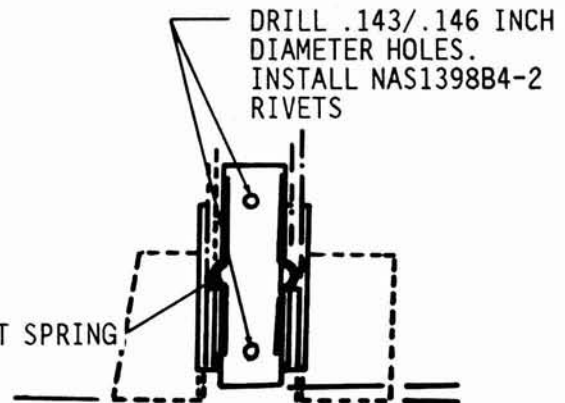

Figure 2
3. Drill two .143/.146 inch diameter holes in the escutcheon plate as shown in Figure 2.